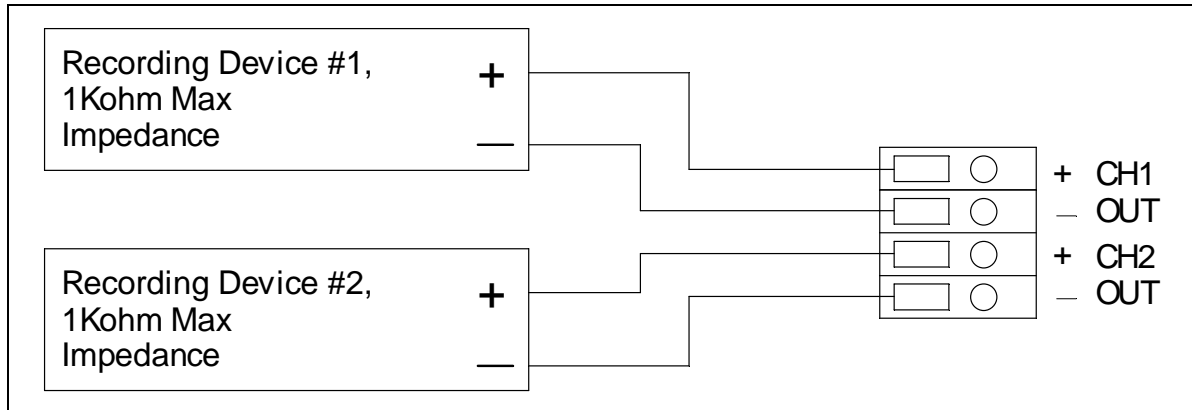

Figure 14. Recorder Output Wiring
4. Connect the wires from the recording device to the recorder output terminals as shown in Figure 14.